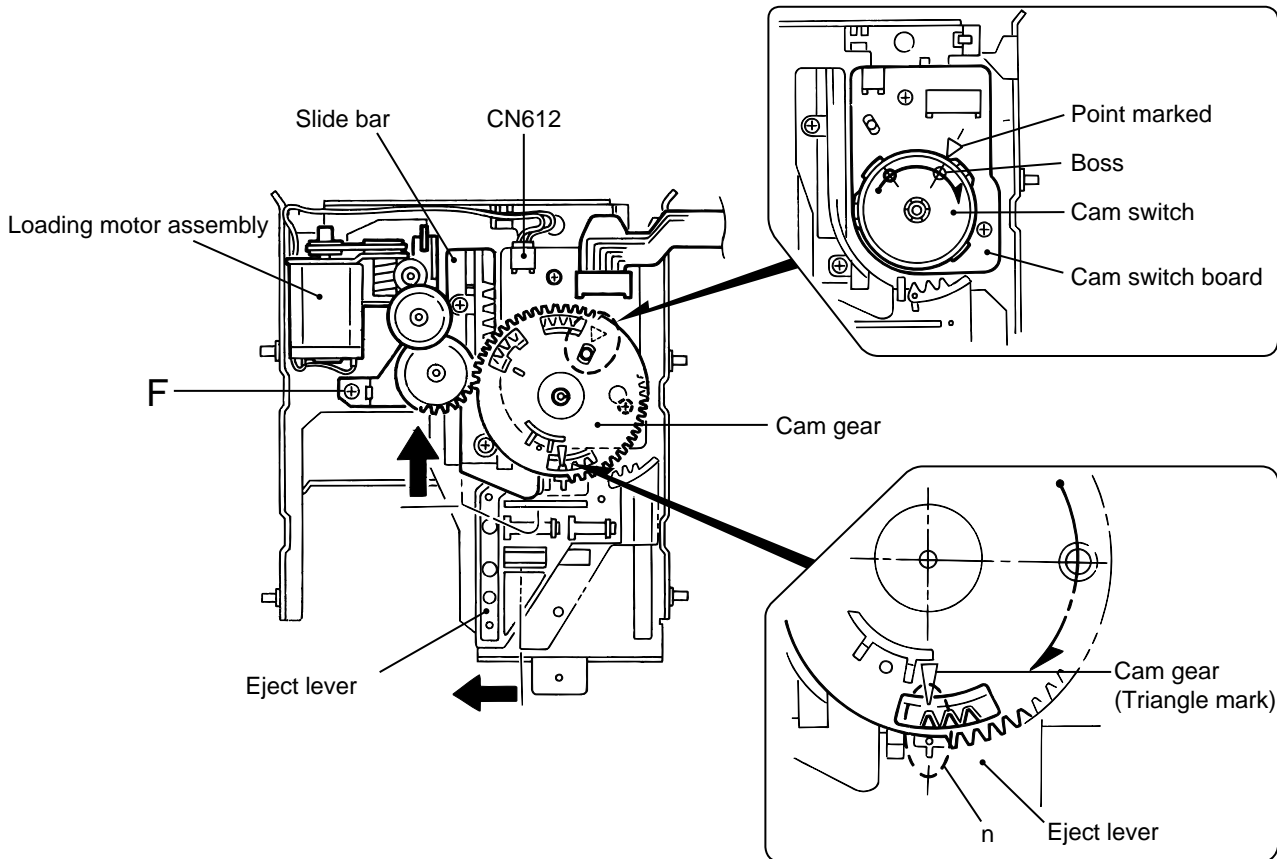

Fig.22
5. Reattach the cam switch board using the two screws H. (Fig.22)
6. Turn the cam switch to bring the boss to the point marked  $\Delta$  on the cam switch board. Reattach the cam gear using a slit washer while fitting the cam gear slot to the cam switch boss. (Fig.22)
ATTENTION: When reattaching the cam gear, the cam switch boss should be fitted to the cam gear slot, and the triangle mark of the cam gear slot should be aligned to the hole of the eject bar as shown in Fig.22.
7. Reattach the loading motor assembly, using the screw F. Connect the harness extending from the loading motor to connector CN612 on the switch board and fix it with the wire holder. (Fig.22)